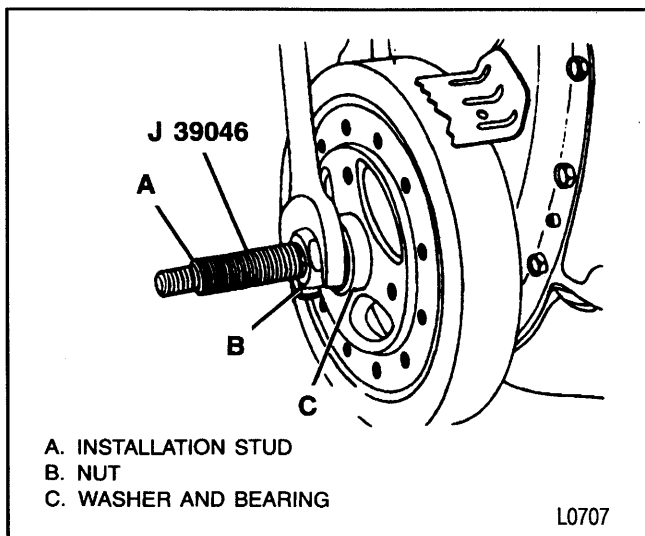

Figure 16—Installing the Torsional Damper
3. Stud (item A, figure 16) to the crankshaft. Thread the stud fully into the tapped hole in the crankshaft.
5. Bearing, washer, and nut (figure 16).